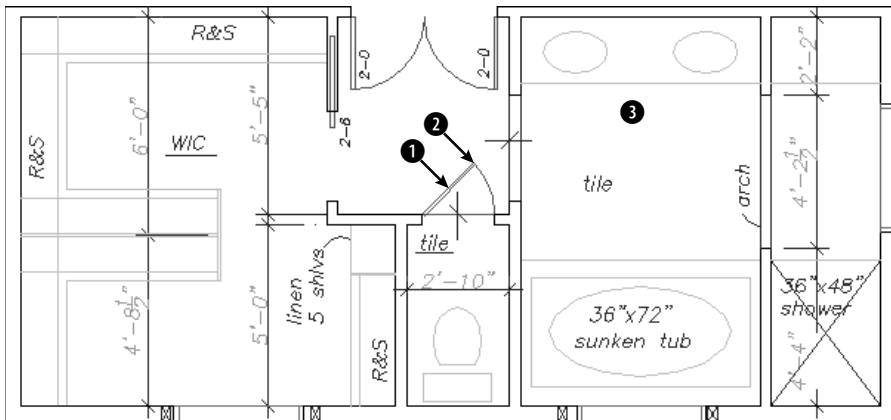

**Figure 13-5:** The master bathroom.
2. Save the file as ab13-01.dwg in your AutoCAD Bible folder. This is a master-bathroom plan drawing, as shown in Figure 13-5. Make sure that OSNAP is on. Set running object snaps for endpoint, midpoint, and intersection.
Specify bottom-center point of text: *Use the Midpoint running object snap to pick ❶ in Figure 13-5.*
Specify middle point of text: *Pick ❸ in Figure 13-5. (This point doesn't have to be exact.)*